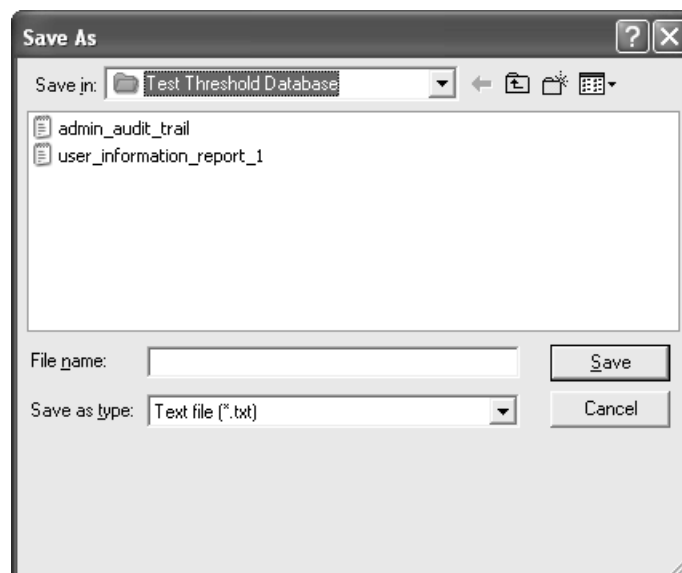

Figure 4-21: The Save As Dialog
- 3) The Save As dialog opens (Figure 4-21).